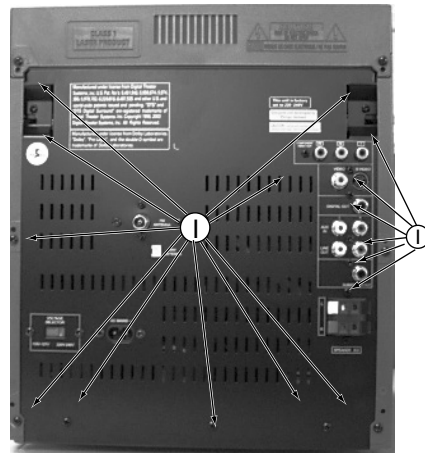

Figure 1
- 1) Loosen 16 screws '1' to remove the Rear Panel figure 1.